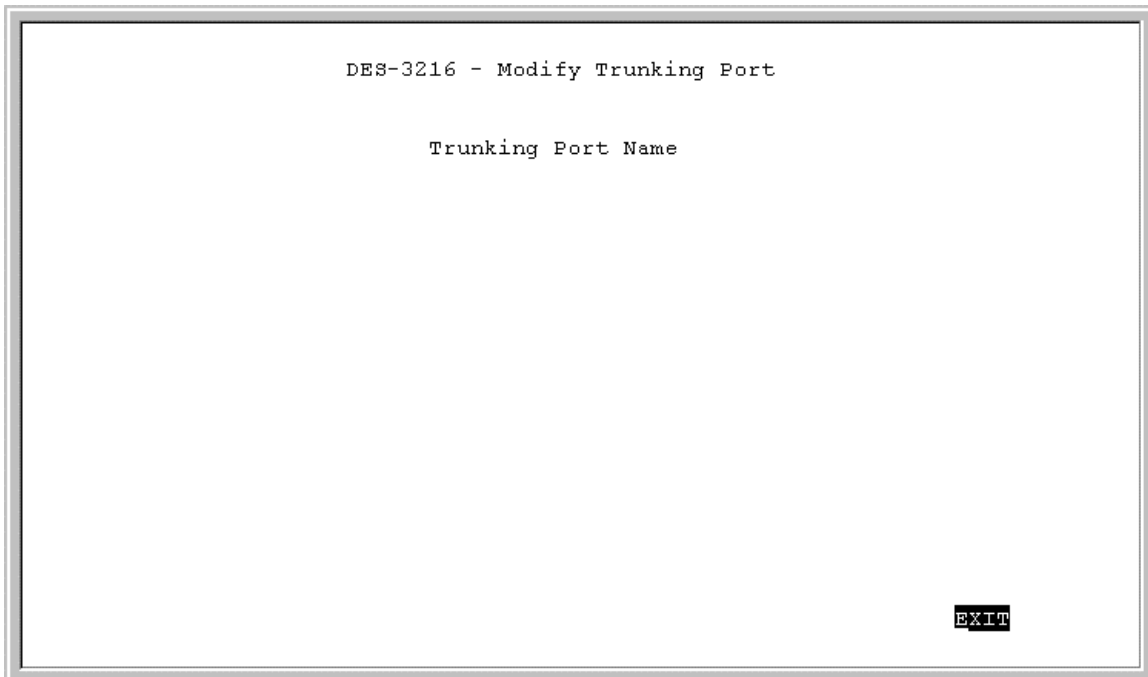

Figure 33: Modify Trunking Port
The Modify Trunking Port panel, displayed in Figure 33, enables you to Modify Trunking Ports.
3. You will see the Modify Trunking Port panel shown in Figure 33. Use this panel to modify a Trunking Group.